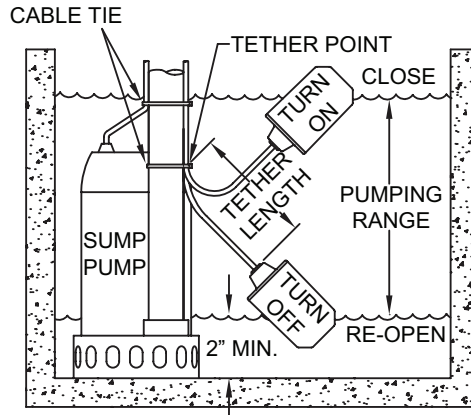

Figure 2
2. To adjust for greater distance between turn-on and turn-off, increase cord length between tether point and float (See Figure 2). For less distance between turn-on and turn-off, decrease cord length (See Table 1).